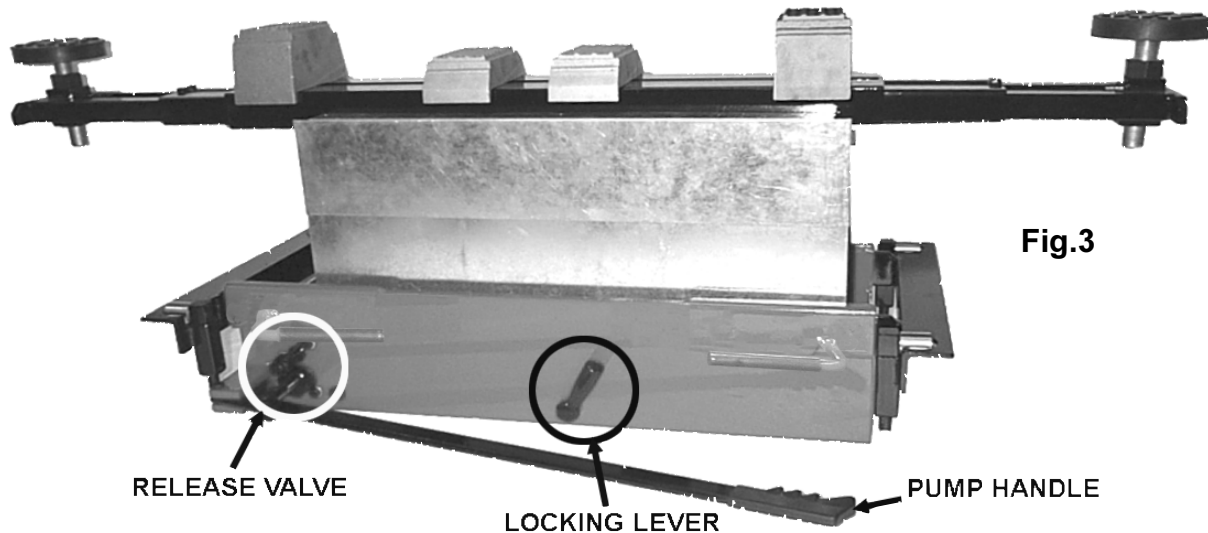

Fig.3
4.1. Jacking Beam Controls.(Fig.3)
4.2.6. Turn the release valve clockwise and start to raise the jack by operating the pump handle.(Fig.3) Raise the beam in short increments and ensure the saddles are centered on the jacking points.